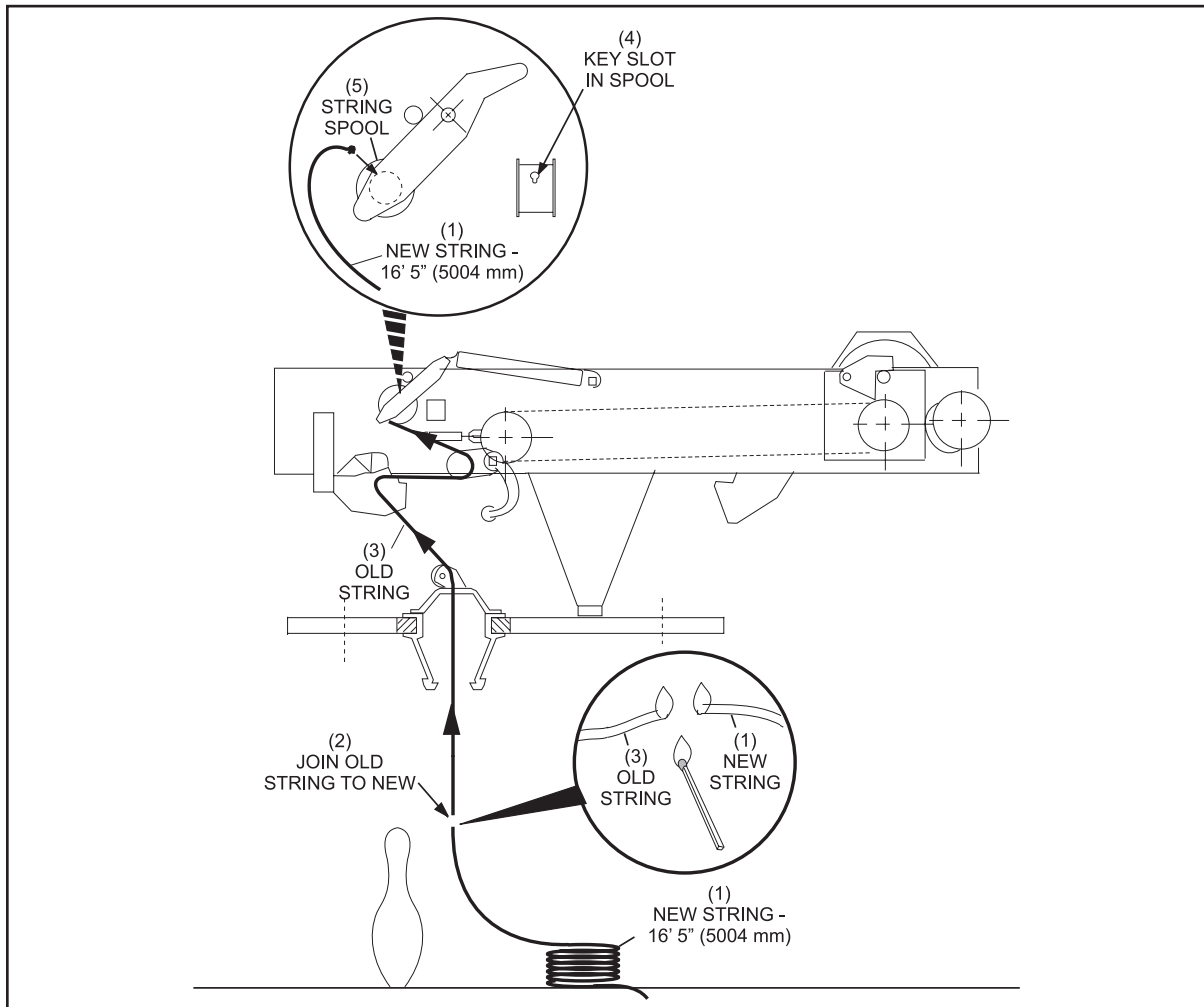

Figure 5-3. Restrung Machine
2. Cut the string off any pin being replaced, just above its head. Refer to *Figure 5-3*.
4. At the cut end of the old string and one end of the new string melt the ends of the strings. While the string ends are still hot, press them together and hold until they cool and form a joint. Cover the joint with electrical tape to increase its strength. Refer to *Figure 5-3*.
5. At the String Spool, use the old string to carefully pull the new string through the machine until the new string is at the string spool. Remove the tape at the joint between the old and the new string. Cut off and discard the old string. Refer to *Figure 5-3*.
6. Remove the old string from the spool. Tie a knot in the end of the new string. Slide the knot through the key slot in the spool shaft and secure it. Refer to *Figure 5-3*.
9. Wind the extra string onto the spool by rotating the spool as arrow (3) shows in *Figure 5-3*.